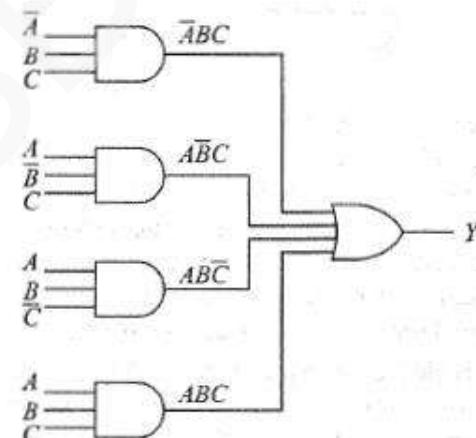

Figure 3.5: AND-OR solution
- The logic circuit for Y is shown in Figure: 3.5.